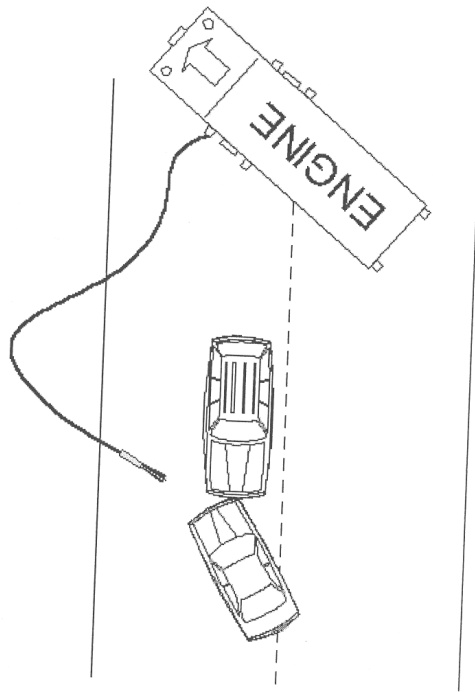

Figure 5
4. For first arriving engine companies where a charged hoseline may be needed, angle the engine so that the pump panel is “down stream,” on the opposite side of oncoming traffic. This will protect the pump operator (See Figure 5). On roadways with limited room to maneuver, it is acceptable to position the apparatus towards curbside to protect the pump operator. At all other times, it is desirable to position apparatus in the direction traffic should flow.